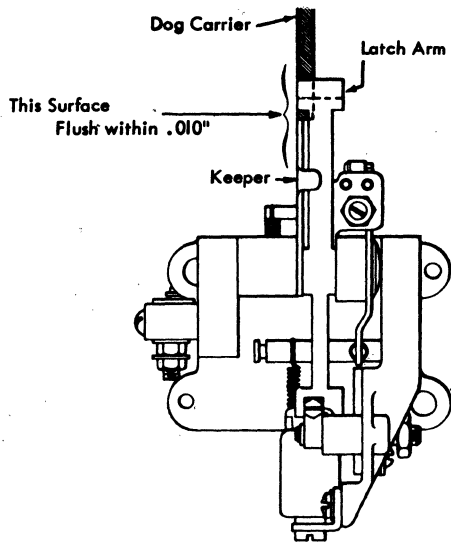

Figure 3-22. Punch Clutch Arm and Dog Carrier Relationship
- a. Position unit sideways so keeper is flush with edge of dog carrier within .010" (Figure 3-22).